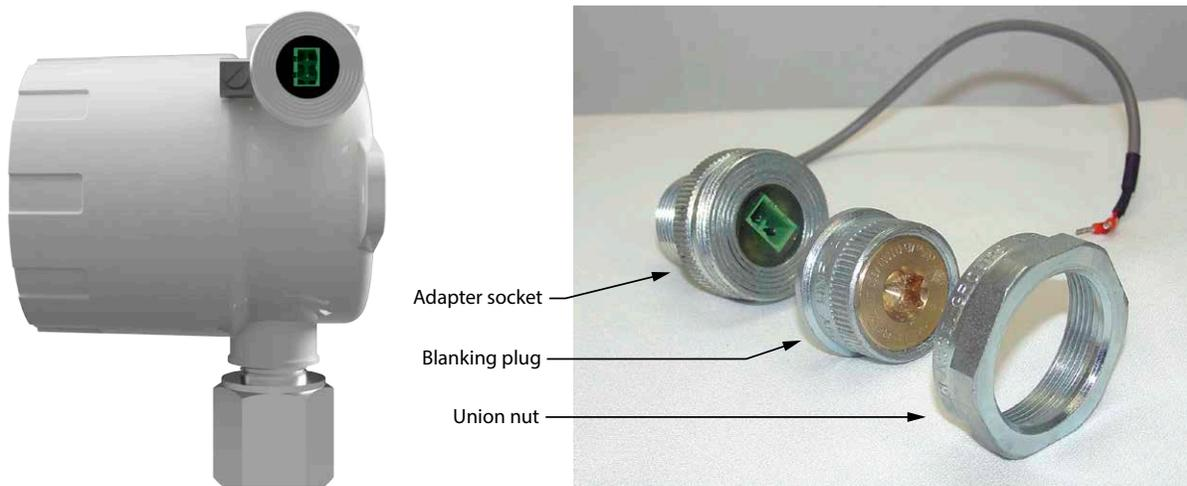

Figure A.3—Components of explosion-proof communications adapter
The explosion-proof communications adapter provides an RS-485 connection for connecting a laptop or PC to the instrument without removing the instrument cover. When the adapter is ordered with an MC Synergy EXP Totalizer, it is factory installed. The installed adapter is comprised of an RS-485 adapter socket, a blanking plug, and a union nut (Figure A.3). It may be relocated to either conduit opening in the instrument housing.
1. Unscrew the union nut to expose the connector socket shown in Figure A.3, page A-2. (A blanking plug will be removed with the union nut. Store the union nut and blanking plug in a safe place. They will need to be reinstalled when the adapter is not in use.)